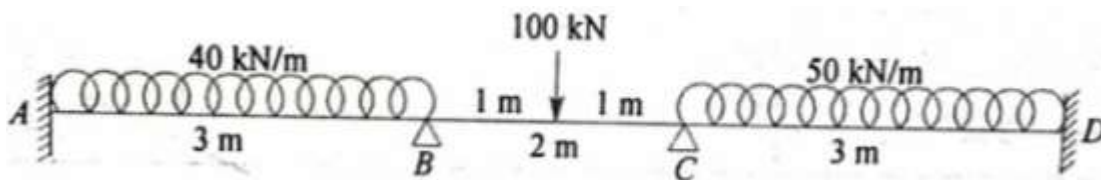

Figure-1
2. Determine the support moments for the continuous girder shown in the Figure-1 below if the support “B” sinks by 2.50mm. For all members $I = 3.50 \times 10^7 \text{ mm}^4$ and $E = 200 \text{ kN/mm}^2$. Use slope deflection method. Sketch the bending moment diagram. 16 M